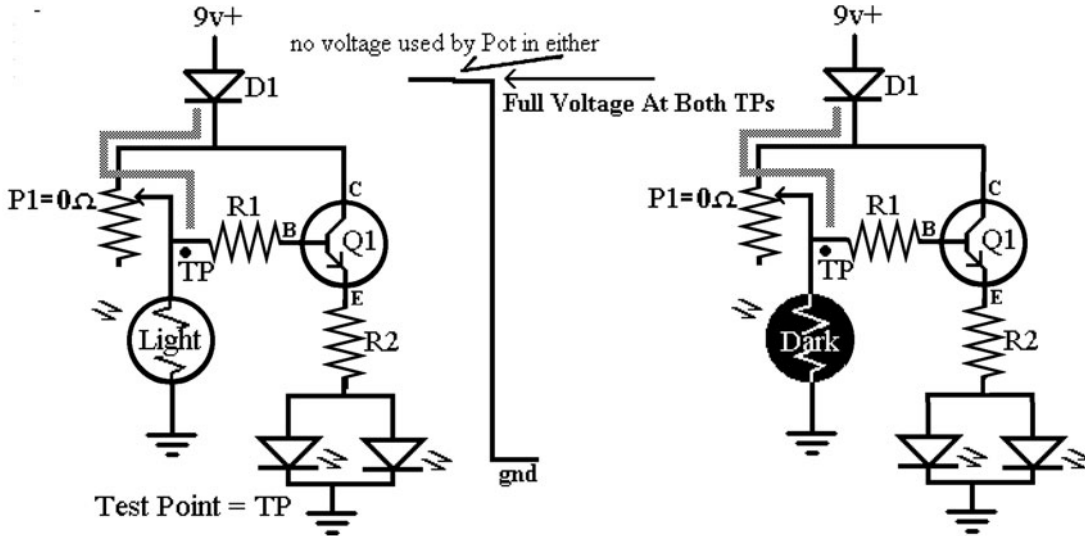

Figure L12-6
Remember the idea of the waterfall when we first looked at resistors. As the size of the load increased, the amount of voltage used increased *proportionately*. The same thing happens with two resistor loads in this circuit. More detail is given in Figure L12-6.
- Set the pot so the resistance between legs A and C, the center leg, is close to 0 ohms. Figure L12-6 shows how the voltage available to the transistor base is identical in both the light and the dark. The potentiometer uses none of the voltage, so the base of the transistor is exposed to nearly full voltage in both circumstances.
- Now set your circuit under a fairly good light. Measure and record the voltage at the test point shown in Figure L12-6. _____ V